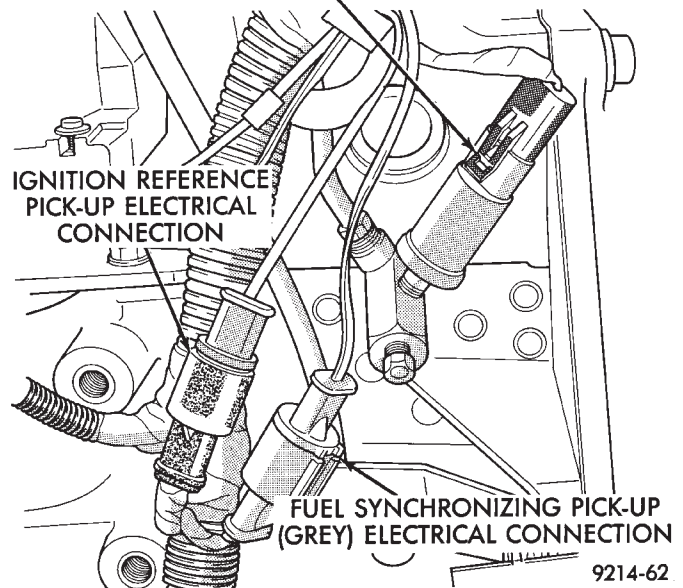
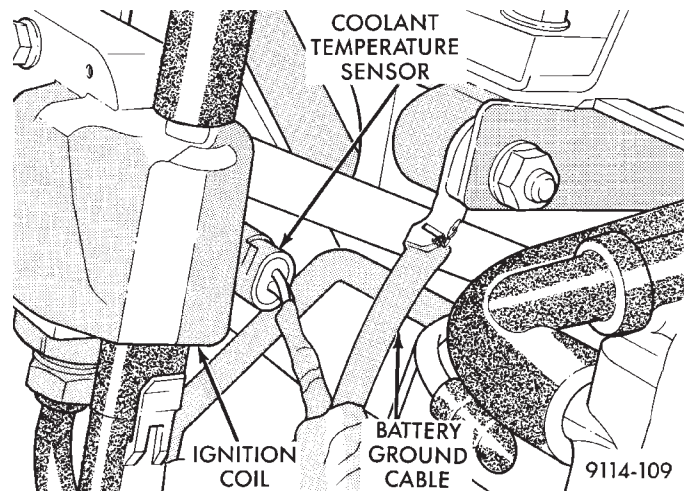

Fig. 7 Oil Pressure Sending Unit Electrical Connection
Fig. 8 Coolant Temperature Sensor
(9) Inspect the oil pressure sending unit electrical connector (Fig. 7).
(10) Check both electrical connectors at the distributor (Fig. 7).
(11) Check radiator fan electrical connector.
(12) Check the coolant temperature sensor electrical connection. Inspect battery ground cable connection (Fig. 8).